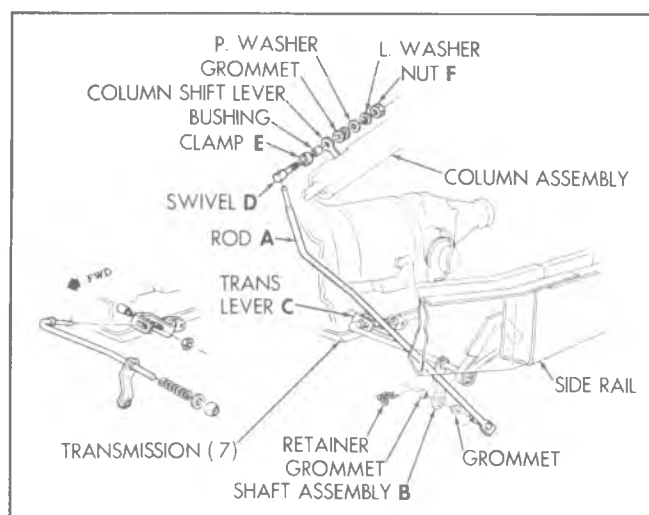

Fig. 7A-5--Column Shift Linkage-G Series
4. Attach rod (A) to shaft assembly (B) as shown (Fig. 7A-5).
5. Slide swivel (D) and clamp (E) onto rod (A) align the column shift lever and loosely attach as shown.
7. Tighten nut (F) to 18 foot pounds.